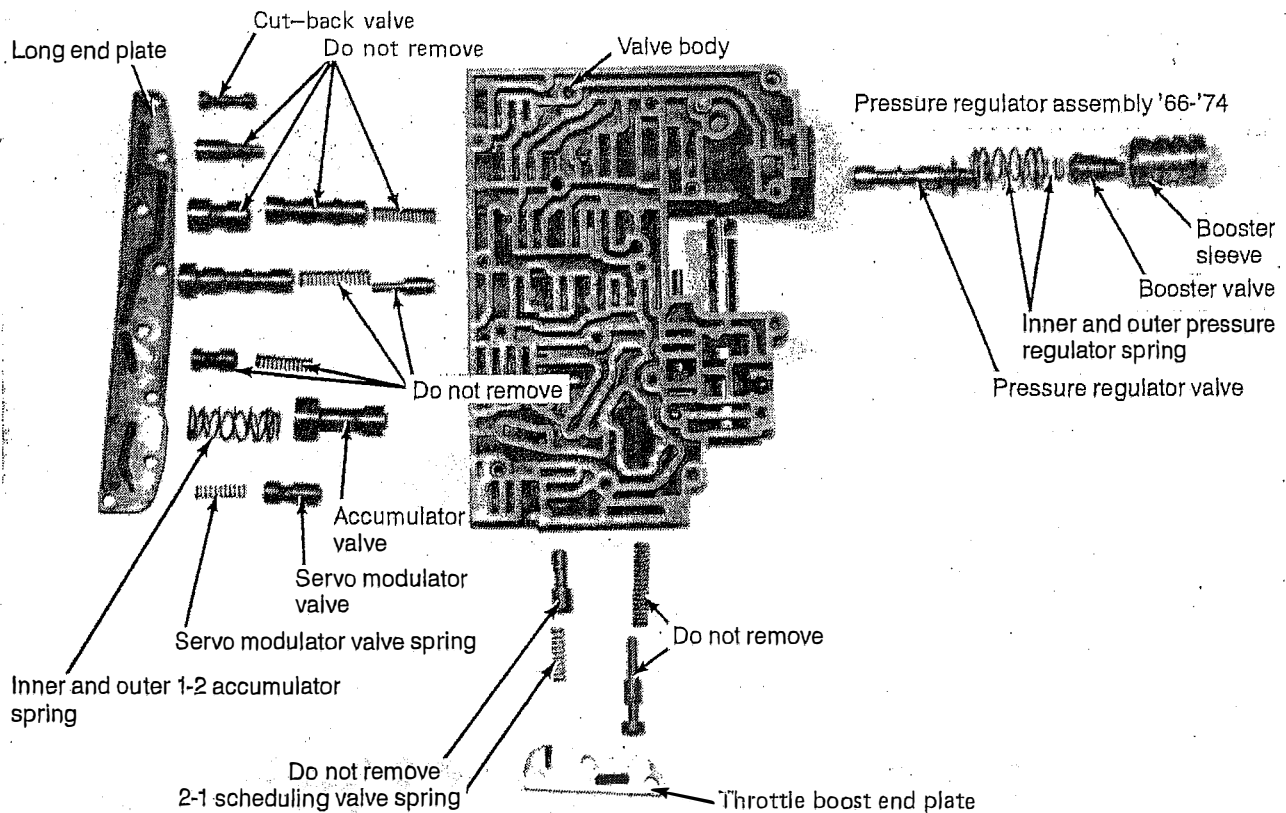

FIGURE 7
'66-'74' (See Fig. 7) Remove the two end plate bolts. Hold your thumb over the end plate as you remove the last bolt so the spring pressure does not allow parts to fly out. Slowly shift the end plate off and remove the booster valve assembly and the pressure regulator springs. Replace the outer spring with the blue spring supplied with the kit. Install the stock inner spring as removed. Replace the booster assembly with the sleeve and valve supplied with the kit. Make sure the valve is properly installed in the sleeve. Push
**STEP 10.** Turn the casting so the throttle boost end plate is up. (See Fig. 7) Remove the two bolts that hold the end plate in place. Again, hold your thumb in place to prevent parts from springing out. Lift end plate off slowly to expose the 2-1 scheduling valve spring. Remove this spring and replace it with the violet spring supplied with the kit. Put the end plate back into position and hold it in place with your thumb. Install two hold down bolts **finger tight**.
**STEP 11.** Turn the casting so the long end plate faces up. (See Fig. 7) This end plate holds seven sets of valves in place. Remove eight bolts holding the end plate in place. Hold the end plate in place with your thumb while removing the last